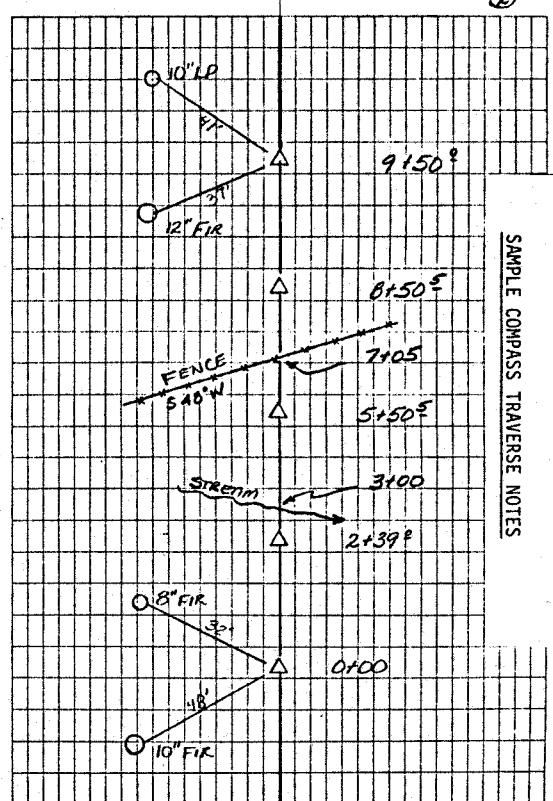

Figure 4
7. Sample level notes are shown in Figure 4.